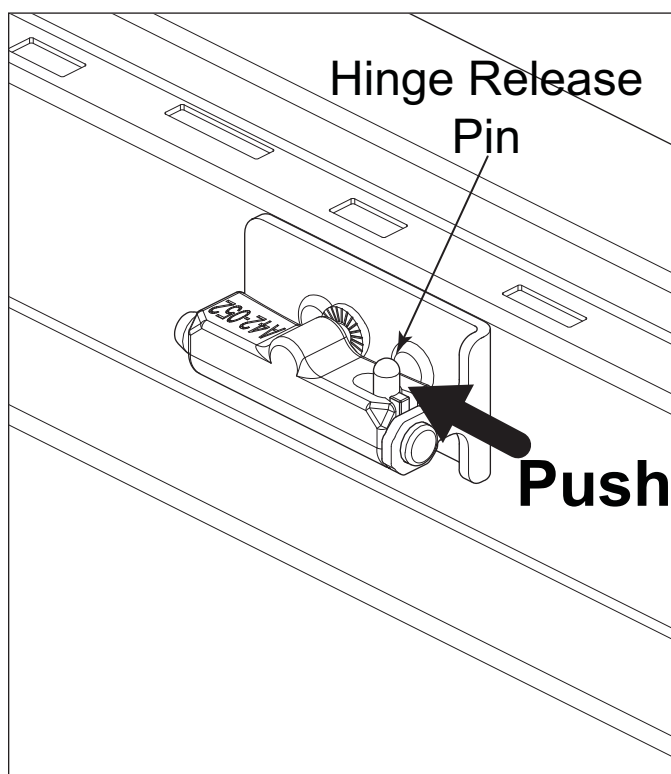

Figure 3-1. Filter Cover Hinge
1. Open Filter cover to 90 degrees. Press Hinge Release Pin toward center of hood. Disengage Filter Cover from the hinge. (See Figure 3-1)